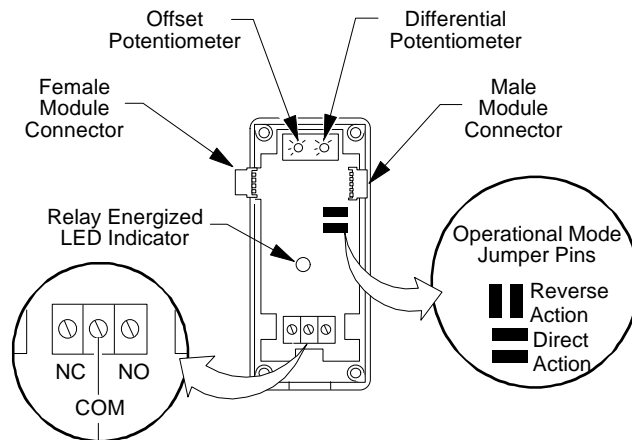

Figure 7: S353 Wiring Designations and Jumper Selections
7. Set the S353 operational mode jumper pins located on the right side of the circuit board (Figure 7 and Table 1).